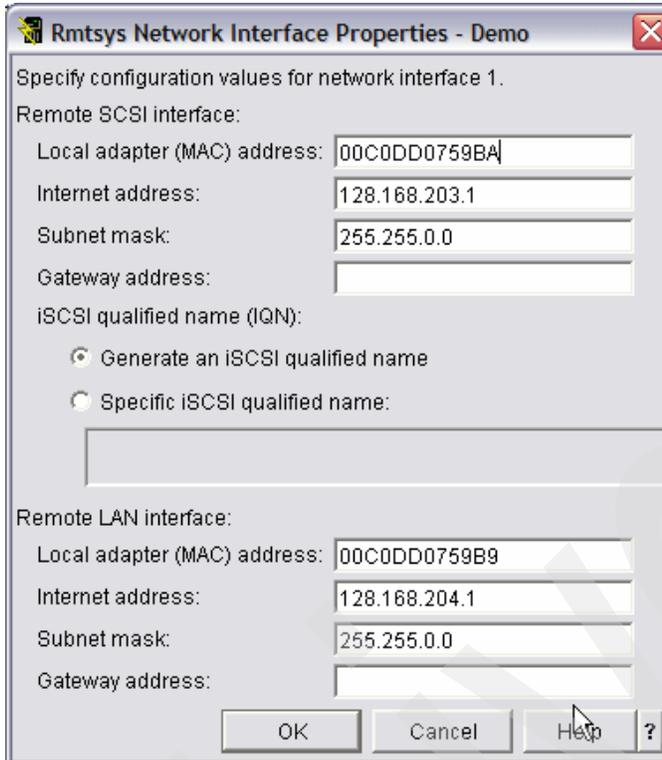

Figure 6-42 Rmtsys Network Interface Properties window
- ii. The Rmtdm Network Interface Properties window appears (Figure 6-42 on page 189).